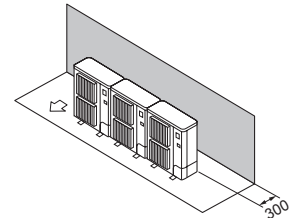

Fig. 2-13
- ① Kun forhindringer bagved (Fig. 2-13)